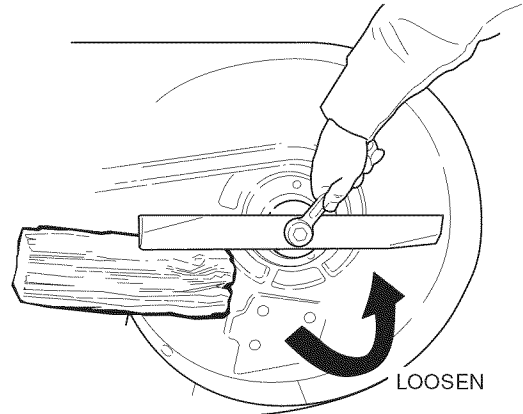

Figure 24. Blade Removal
2. Remove blade to inspect it or to safely access the underside of the mower deck (see Figure 24). Use a block of wood to prevent blade rotation while loosening the capscrew by turning it counterclockwise.